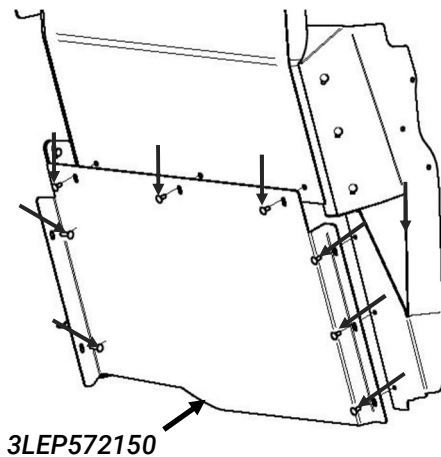

Figure 5
- A. Place the Pro-cell lower extension panel [3LEP572150] into the vehicle and place the outside flange against the mounting plate (Fig 5). Align the (3) holes at the top of the panel and the (3) holes along the outboard flange of the panel with their respective holes in the partition and the mounting plate (Fig 5).
- B. Loosely install a carriage bolt [3X36] and a whiz nut [3X16Z] into each of the (6) holes identified in the previous step. Install the fasteners such that the smooth head of the carriage bolt is facing towards the rear of the vehicle. The two holes on the inboard flange of the panel will remain empty for now.
- C. Position the partition so that the edge of mounting flange is even with the edge of the mounting plate. Tighten the (3) fasteners that were installed in Section VIII Step C using a 7/16" socket.
- D. Adjust the lower extension panel [3LEP572150] to achieve the desired fitment then tighten the (5) fasteners installed in Step B using a 7/16" socket.